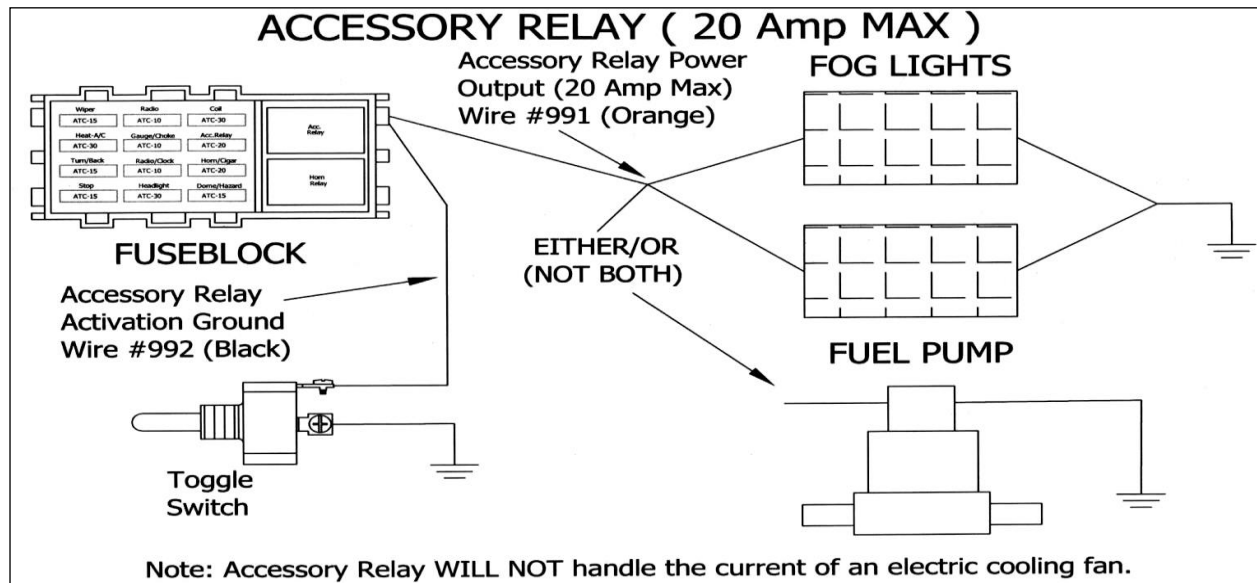

Figure 7-45 Accessory Relay Diagram
- 7.13.4** The final Accessory component in this Ford Truck chassis harness is a 20amp accessory relay output. The relay is preinstalled in the fuse block, powered, and fused. It ONLY requires a ground to be activated. **See Figure 7-45.**